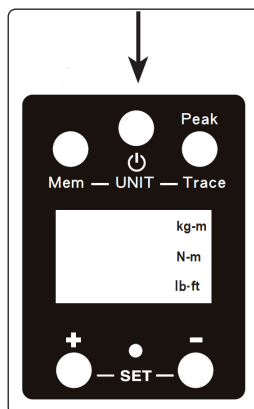

fig.7
4.7.1. If the digital torque adaptor is not used for 70 seconds, it will automatically switch off, otherwise manually turn it off by pressing and releasing the power button (fig.7).